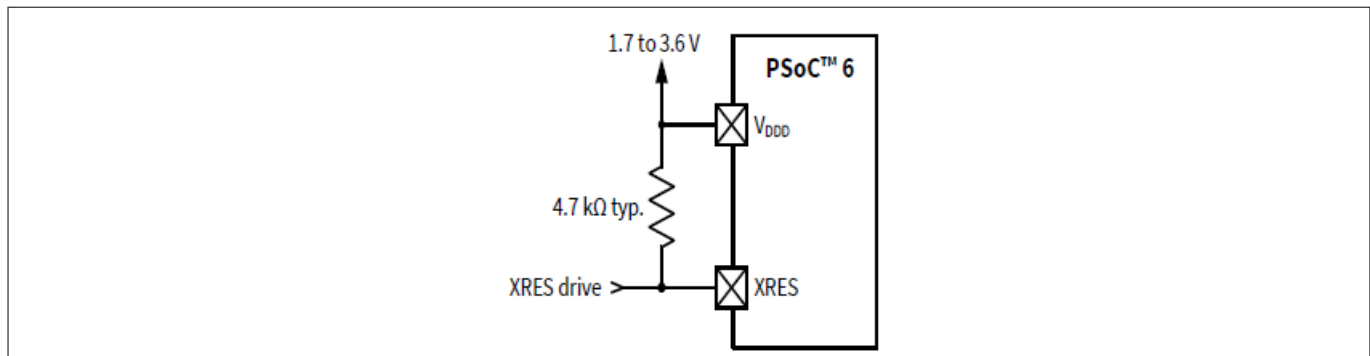

Figure 5 XRES connection diagram
- External reset dedicated pin (XRES) to reset the device using an external source. The XRES pin is active low. It can be connected either to a pull-up resistor to V_{DD} , or to an active drive circuit, as Figure 5 shows. If a pull-up resistor is used, select its value to minimize current draw when the pin is pulled low; 4.7 kΩ is typical.